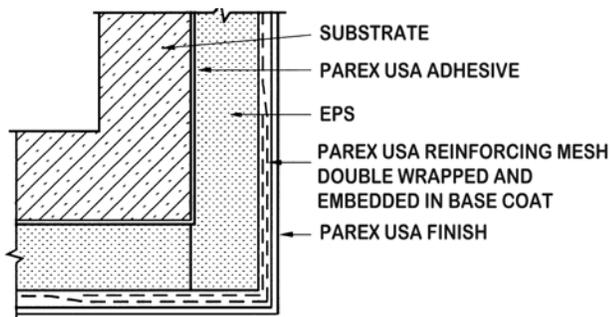

Fig 12.8
(2) Another way to double mesh corners is to wrap and embed mesh in basecoat around the corner from one side to the other side. Next duplicate this process coming from the other side. The double mesh should extend at least 8 in. (20cm) from the corner in both directions. (Fig 12.8).